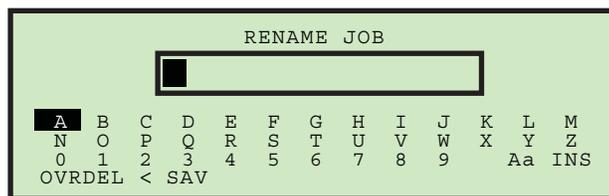

Figure 3-24: Rename Job screen
1. On the Job Menu screen (Figure 3-23), select **ADD**, and press **Enter**. The **RENAME JOB** screen appears as shown in Figure 3-24.